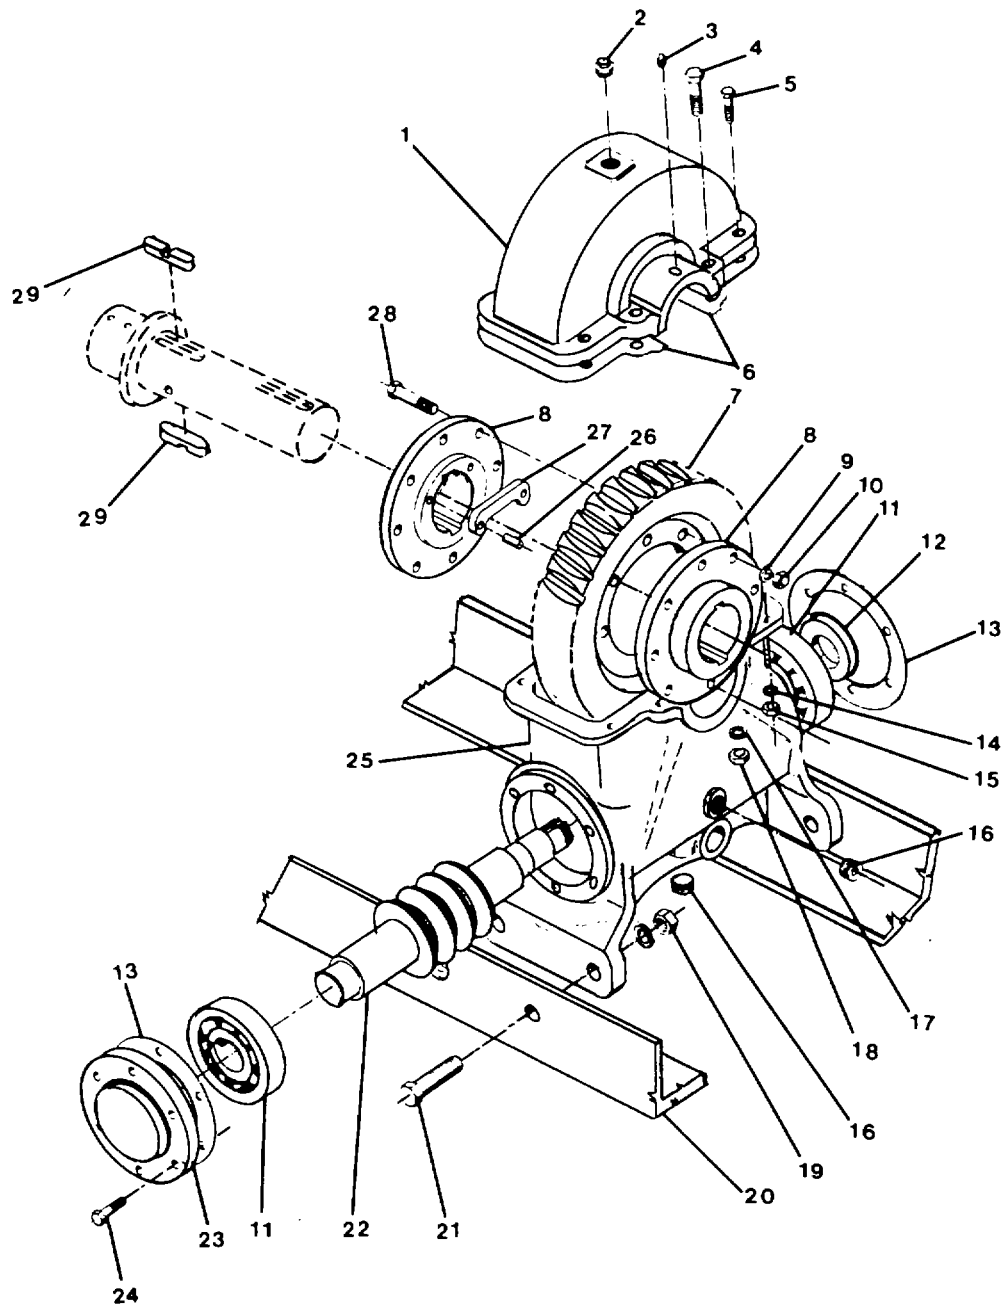

FIGURE 4-7. Gear Box Assembly.
- (1) Attach lifting gear to the gear box.
- (2) Remove bolts (21, FIGURE 4-7), nuts and washers (19) attaching gear box to mounting frame (20).
- (3) Slide gear box off the drum shaft and swing clear of the windlass and lower to the deck. This will leave the wildcat sitting on the deck with the shaft running through it.
- (1) Attach lifting sling to gear box (FIGURE 4-7)
- (2) Lift gear box and slide onto shaft aligning mounting holes.
- (3) Install bolts (21), lock washers (20) and nuts (19) and secure.